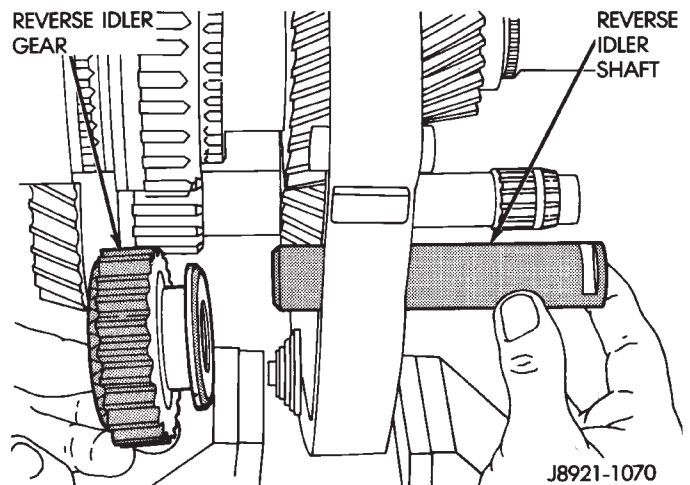

Fig. 40 Reverse Idler Gear And Shaft Removal
- (21) Remove reverse gear and shaft (Fig. 40).